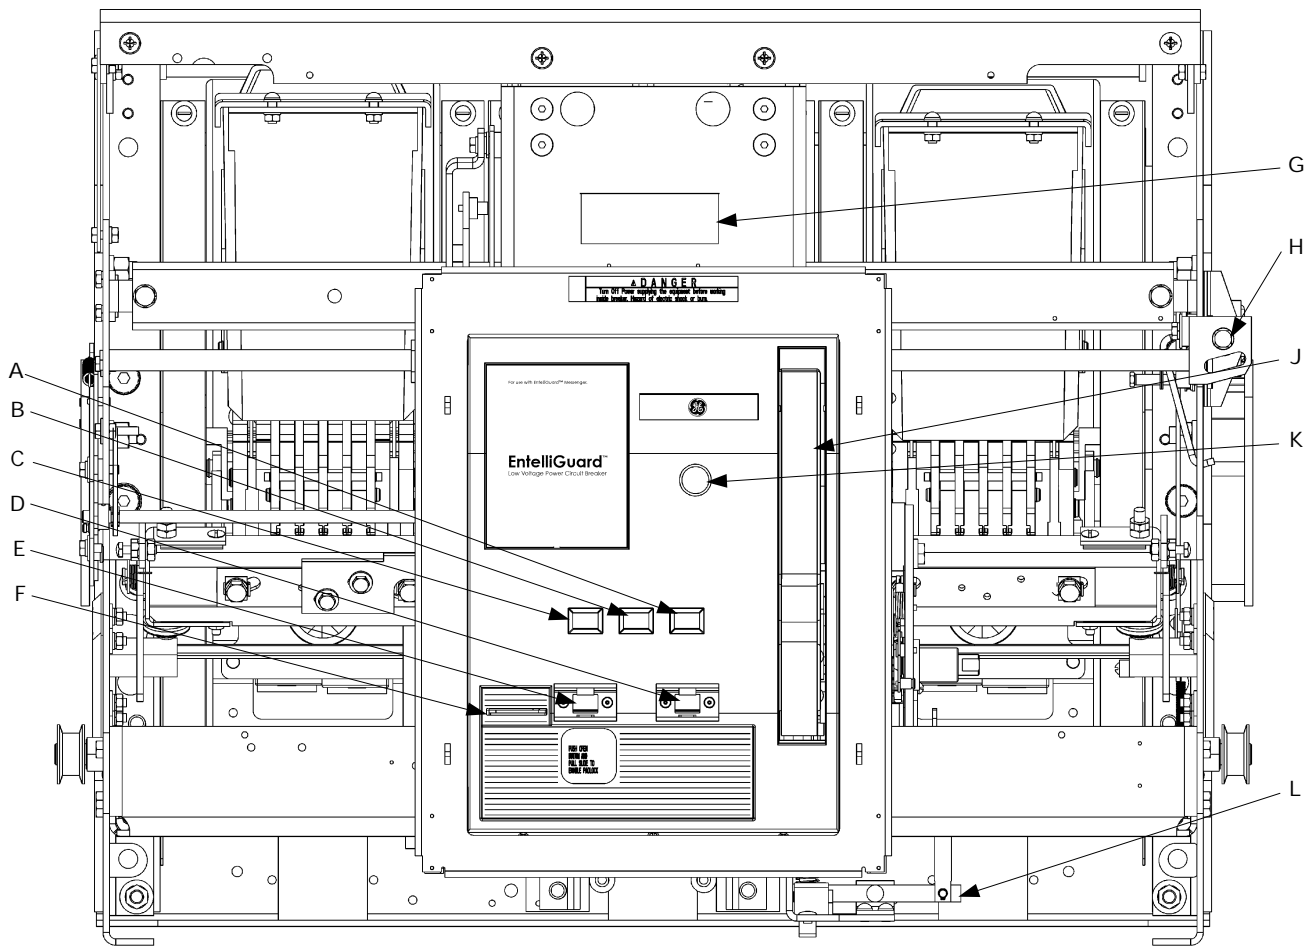

Figure 1. Front of the EntelliGuard circuit breaker, showing the locations of standard and optional features.
EntelliGuard circuit breakers are equipped with the standard and optional features illustrated in Figure 1. The letters are keyed to the list below the figure.
3. Open the compartment door and pull out the rails. Depress the spring discharge lever, indicated in Figure 1, to discharge the breaker's closing springs. Continue to depress this lever while pulling the breaker out to its Withdrawn position.